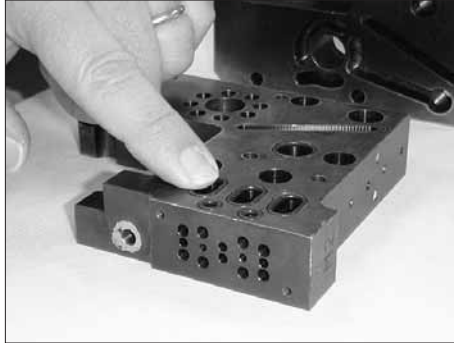

Figure 7-60 Location of inner slice O-rings
3. See Figure 7-60. Install new O-rings in the appropriate positions on all inner slices.